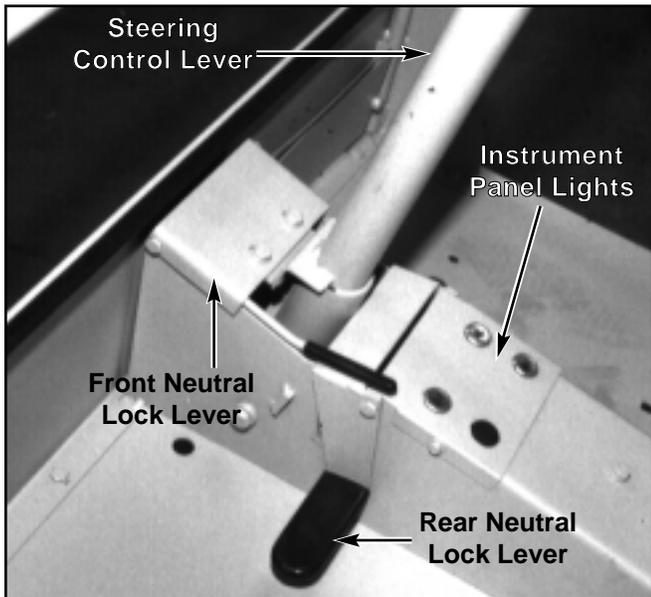

Figure 3-4
5. **Neutral locks (Fig. 3-4)** – front and rear locking devices hold the steering control lever in a neutral position as tractor will not move when the engine is running and drive pump is operating. Rotating the front lock, up and forward, allows the control levers to be moved forward. Lifting the rear lock with toe of operator's foot allows the control lever to be moved in reverse.
6. **Steering control lever (Fig. 3-4)** – this lever controls tractor speed and direction. The lever is used to steer, accelerate, brake, and change direction.
**12. Warning lights (Fig. 3-4)** – a cluster located on the footrest panel directly behind the neutral locks. These lights will come on if an operating problem exists with the engine oil, cooling or electrical alternator system.